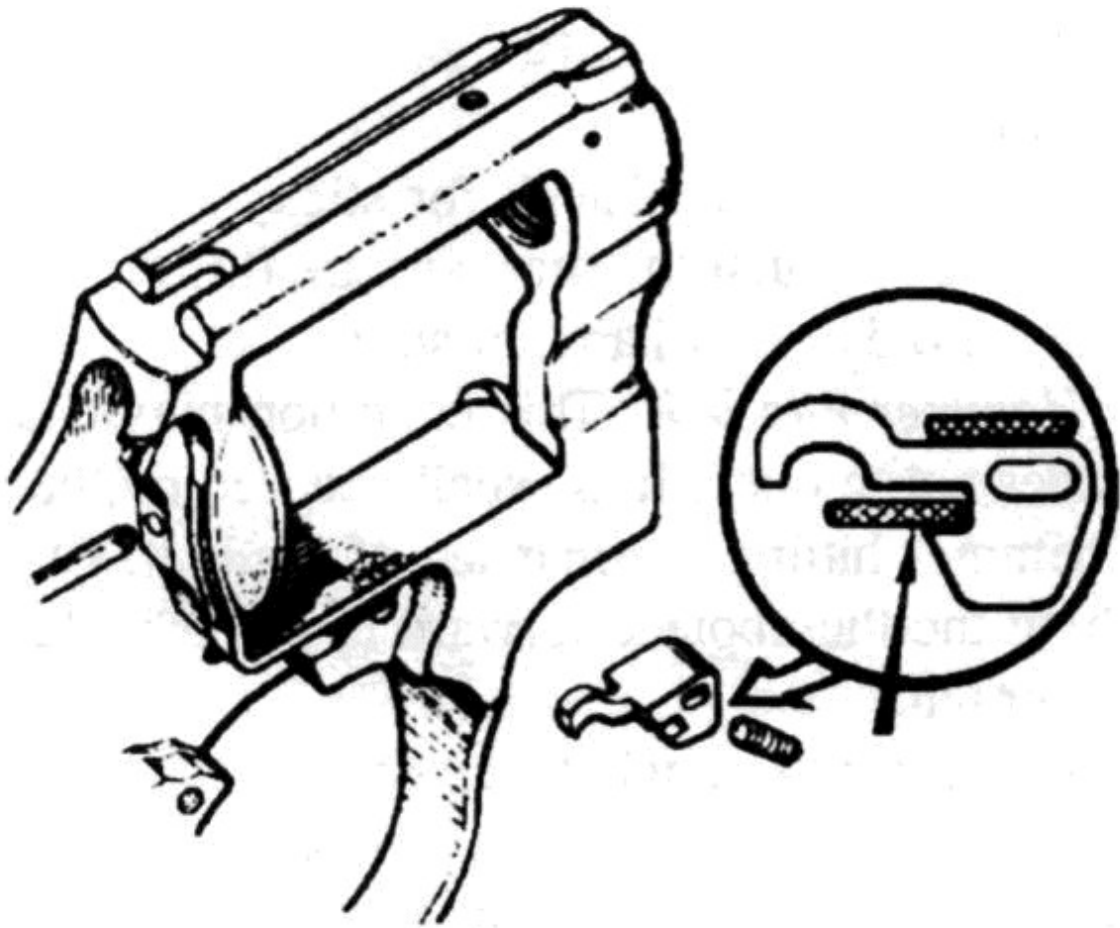

Figure 15-34: Filing the top of the revolver stop can correct a nonholding stop.
*Stop doesn't hold :* Using normal pressure, try to lift cylinder off the ball of the stop; it should not lift off for correct functioning. Sometimes this condition exists only on one cylinder notch. To correct, file the top of the stop as shown in Fig. 15-34.